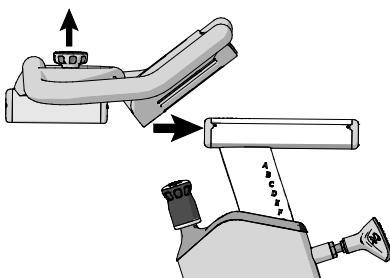

Figure 9
1. Slide the handlebar assembly onto the handlebar post (Figure 9) by loosening the fore/aft handlebar knob and pulling it up to align with the grooves in the handlebar post.